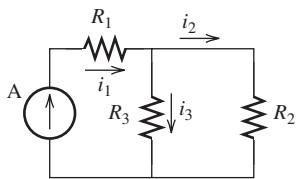

FIGURE P2.68 Circuit diagram for PSpice Problem 2.68.
- 2.68 (A)** In Figure P2.68, the current source A is 10 A, and resistors R_1 , R_2 , and R_3 are equal to 4Ω , 3Ω , and 2Ω , respectively. Use PSpice and find the current i_2 and i_3 . In addition, assume we replace the current source with a voltage source. Assuming i_1 , i_2 , and i_3 remain unchanged, find the magnitude of the voltage source.